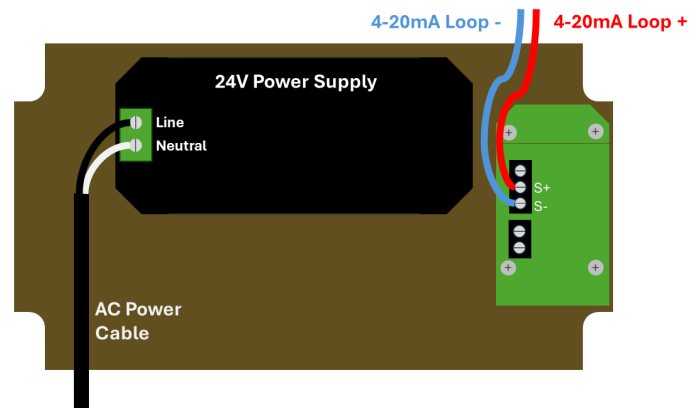

Figure 5
6. Use Figure 5 for the electrical connections. Connect an AC power cable to the 24V power supply. (*Optional*) Connect the 4-20 mA command signal to the PCB.